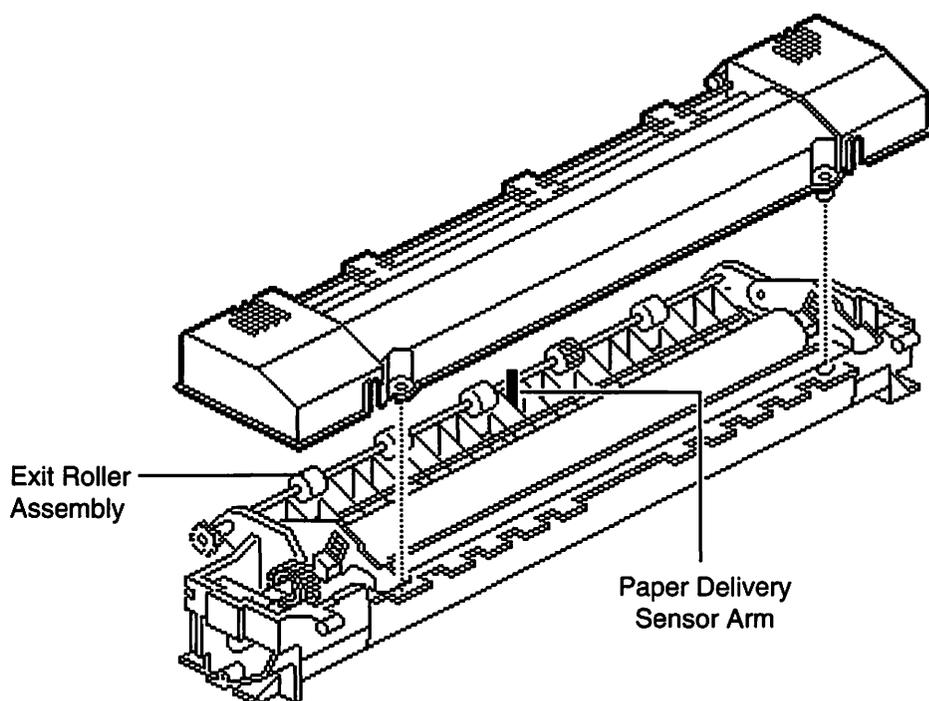
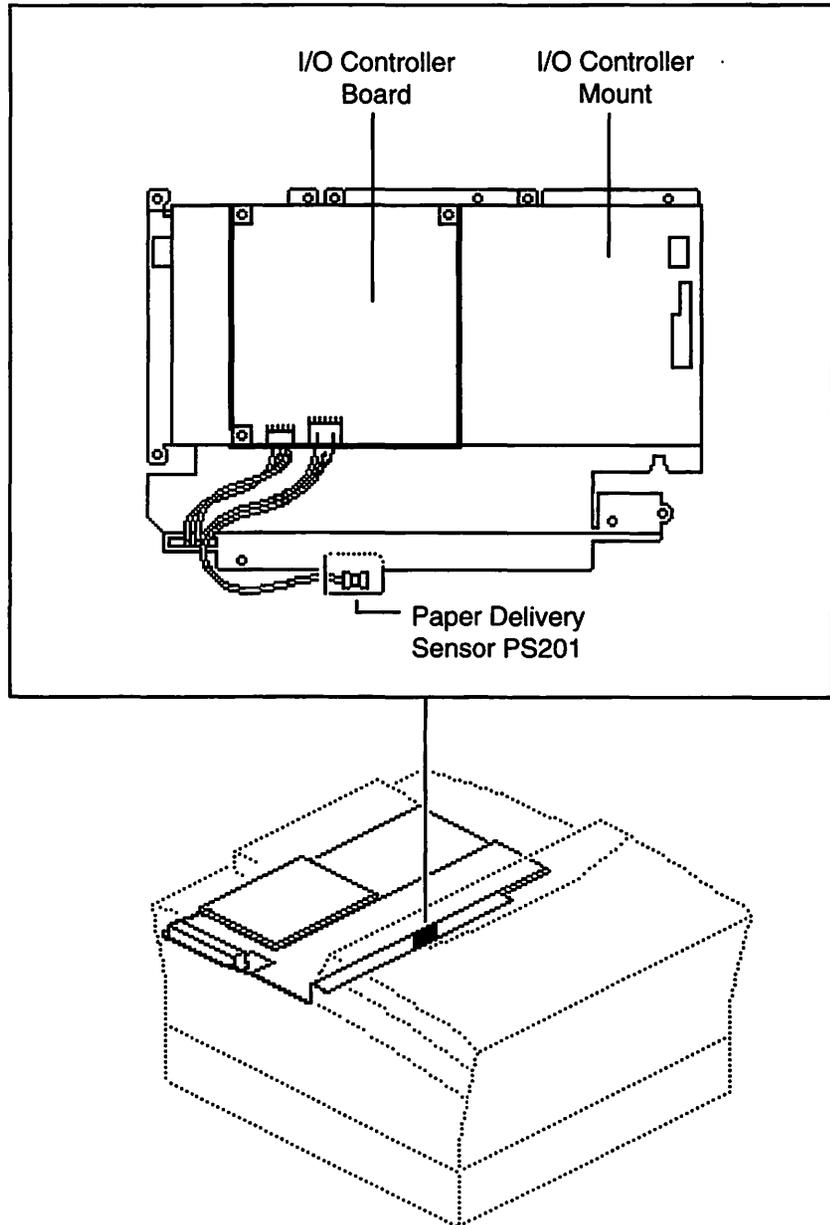

Figure 1-20
Figure 1-21
- The exit roller assembly (see Figure 1-20) moves the paper from the fuser assembly to the paper delivery tray on top of the printer.
- The paper delivery sensor arm, located under the exit roller assembly (see Figure 1-20), and the sensor PS201, located on the I/O controller mount below the sensor arm (see Figure 1-21), detect when the printed page leaves the fuser assembly. If the page does not reach this sensor arm within a set period of time after activating the paper registration sensor, a paper jam is detected. An 8 1/2-by-11-inch sheet of paper must activate the paper delivery sensor in 17.960 seconds, and a legal size sheet of paper must activate the sensor in 22.776 seconds.